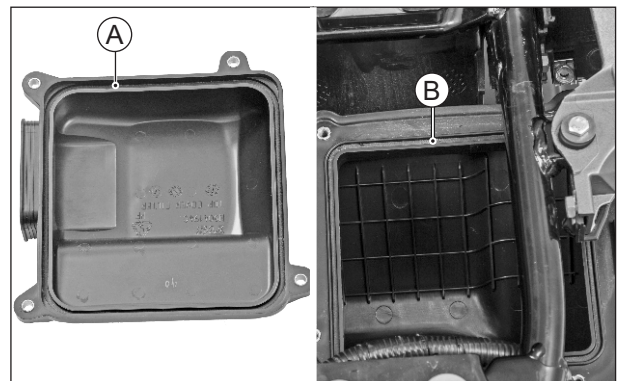

Fig. 2.46
- Inspect and ensure that the cover air cleaner and case air cleaner assembly is clear from any dust, dirt and foreign particles. (Fig. 2.46)